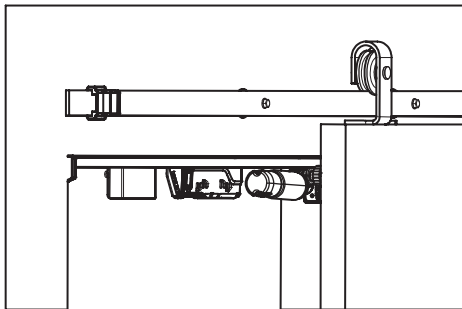

Fig 1: Sidewall Mount Sliding System
- Header of the opening – Under-header mount (Fig 1).